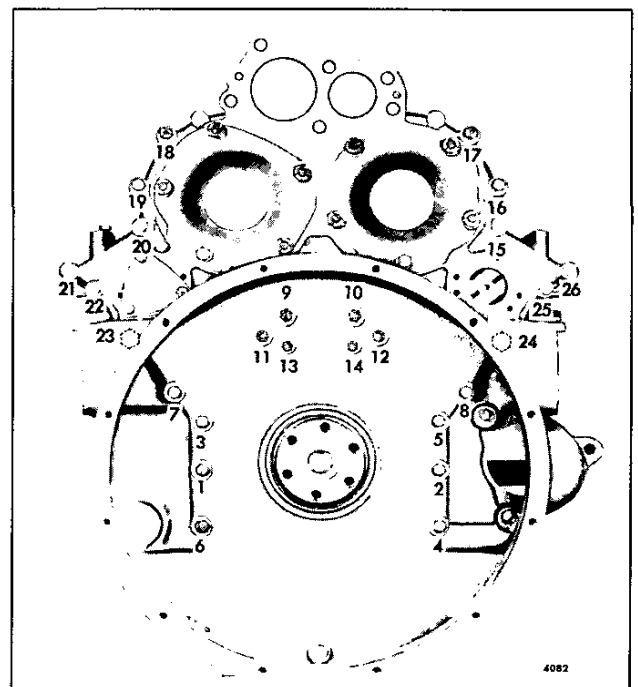

Fig. 7 - Flywheel Housing Bolt Tightening Sequence (Operation 2)—6V Engine
10. Refer to Fig. 7 or 8 for the final bolt tightening sequence for V engines. Then start at No. 1 and tighten the bolts to the specified torque. Tighten the 5/16"-18 bolts (numbers 13 and 14) to 19-23 lb-ft (26-31 N·m) torque and the 3/8"-16 bolts (numbers 9 through 12) to 40-45 lb-ft (54-61 N·m) torque. Tighten the remaining 3/8"-16 and 3/8"-24 bolts to 25-30 lb-ft (34-41 N·m) torque. Be sure to rotate the crankshaft when tightening the idler gear hub bolts and flywheel housing bell bolt on an 8V engine.